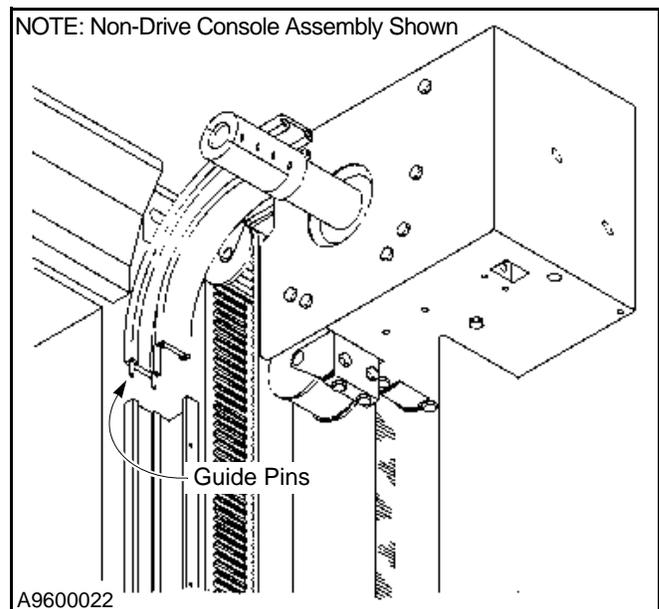

Figure 27
- Insert the two guide pins into both rear holes in the console assembly guide rails. (See Figure 27.)